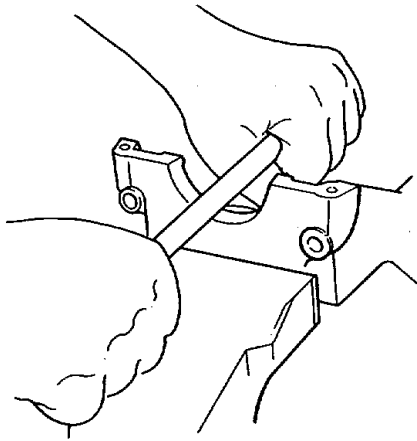

Figure 5-16. Pressing Seal in Place.
- (1) This sealing arrangement consists of two half housings bolted around the rear of the crankshaft. The bore of these housings is machined to accommodate a rubber cored asbestos strip that, in conjunction with a right-hand helix machined between the thrust collar and the flywheel mounting flange, acts to return the surplus oil reaching the seal. The two half housings fit over this helix. The contact of the sealing strips with the crankshaft prevents leakage beyond this point.
- (2) When traces of oil become apparent from behind the flywheel and a faulty rear oil seal is suspected, first ensure that the crankcase is breathing normally. Any buildup in crankcase pressure could cause oil to be forced past the rear sealing arrangement.
- (3) If crankcase pressure is normal and new seals need to be fitted, the following procedures should be adopted with the crankcase in position.
- (c) With the thumb or finger, press the remainder of the strip into the groove, working from the center. Then use any convenient round bar to seat the strip by rolling and pressing its inner diameter (see Figure 5-16). This procedure takes advantage of the friction between the strip and the groove at the ends to compact the rope, while ensuring that the projections of the end faces of the rope remain as set.